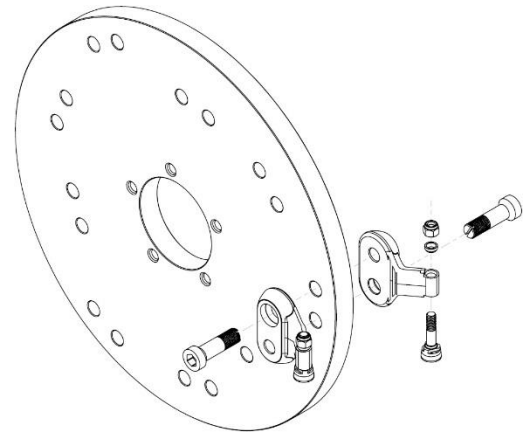

Figure 1.1
6. Slide the **LoPro®** bolts through the empty holes in the wheel and thread them into the adjacent pocket's threaded holes. For now, firm up the **LoPro®** bolts until pockets are seated. (Figure 1.1)